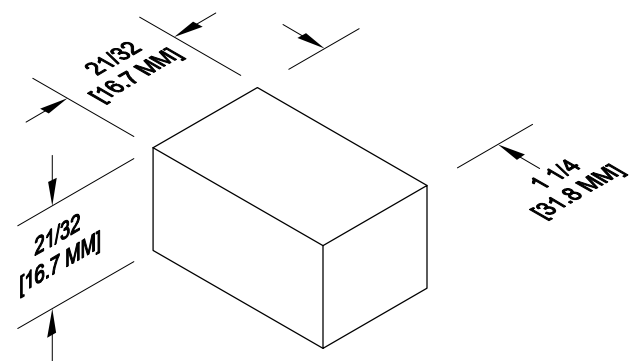

FIGURE 2: FABRICATE SPACER
Step 2: Fabricate a spacer as shown in Figure 2. The dimension of the spacer is based on a 5:00X5-6 Tire.